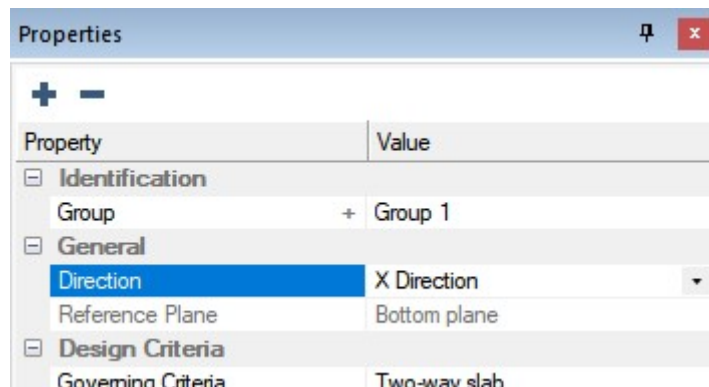

Figure 4.1-1 - Support Line Dynamic Editor
- Use the **Create X-Support Line**  tool from **Floor Design | Strip Modeling**. This puts the program into “creation mode” for the support line. In the **Properties Grid**, make sure the intended direction of the Support Line is set to **X-Direction** (**Figure 4.1-1**).